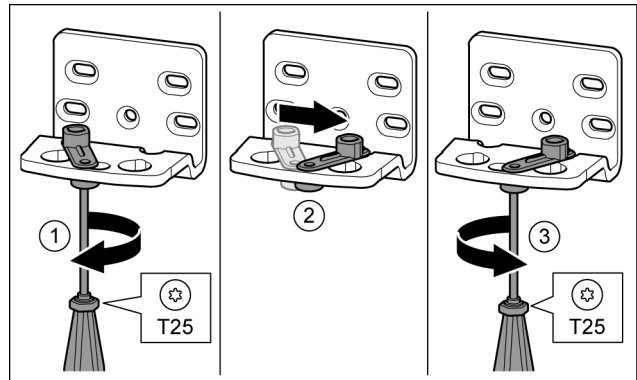

Fig. 30*
- ▶ Loosen the screw using a T25 screwdriver.* *Fig. 30 (1)*
- ▶ Lift the door closure aid and turn it 90° to the right in the hole.* *Fig. 30 (2)*
- ▶ Tighten the screw using a T25 screwdriver.* *Fig. 30 (3)*